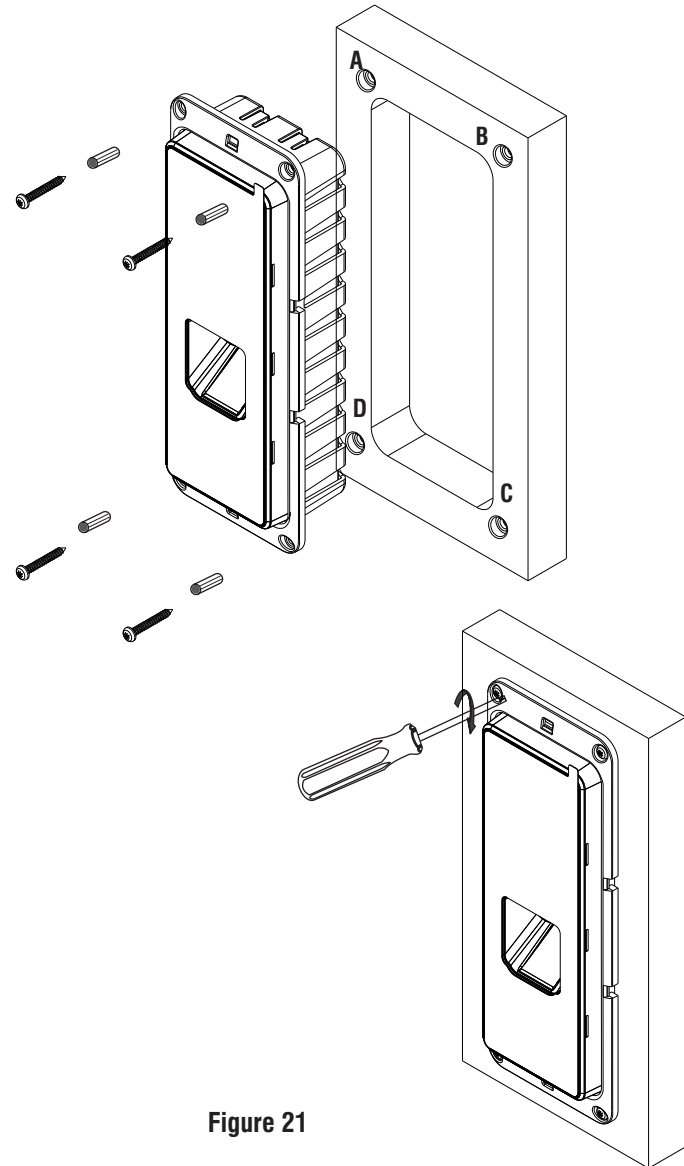

Figure 21
Step 4: Affix the Surface Mount Plate with the Device on the surface with the help of the screws and screw grips through the holes **A**, **B**, **C** and **D**, see **Figure 21**.